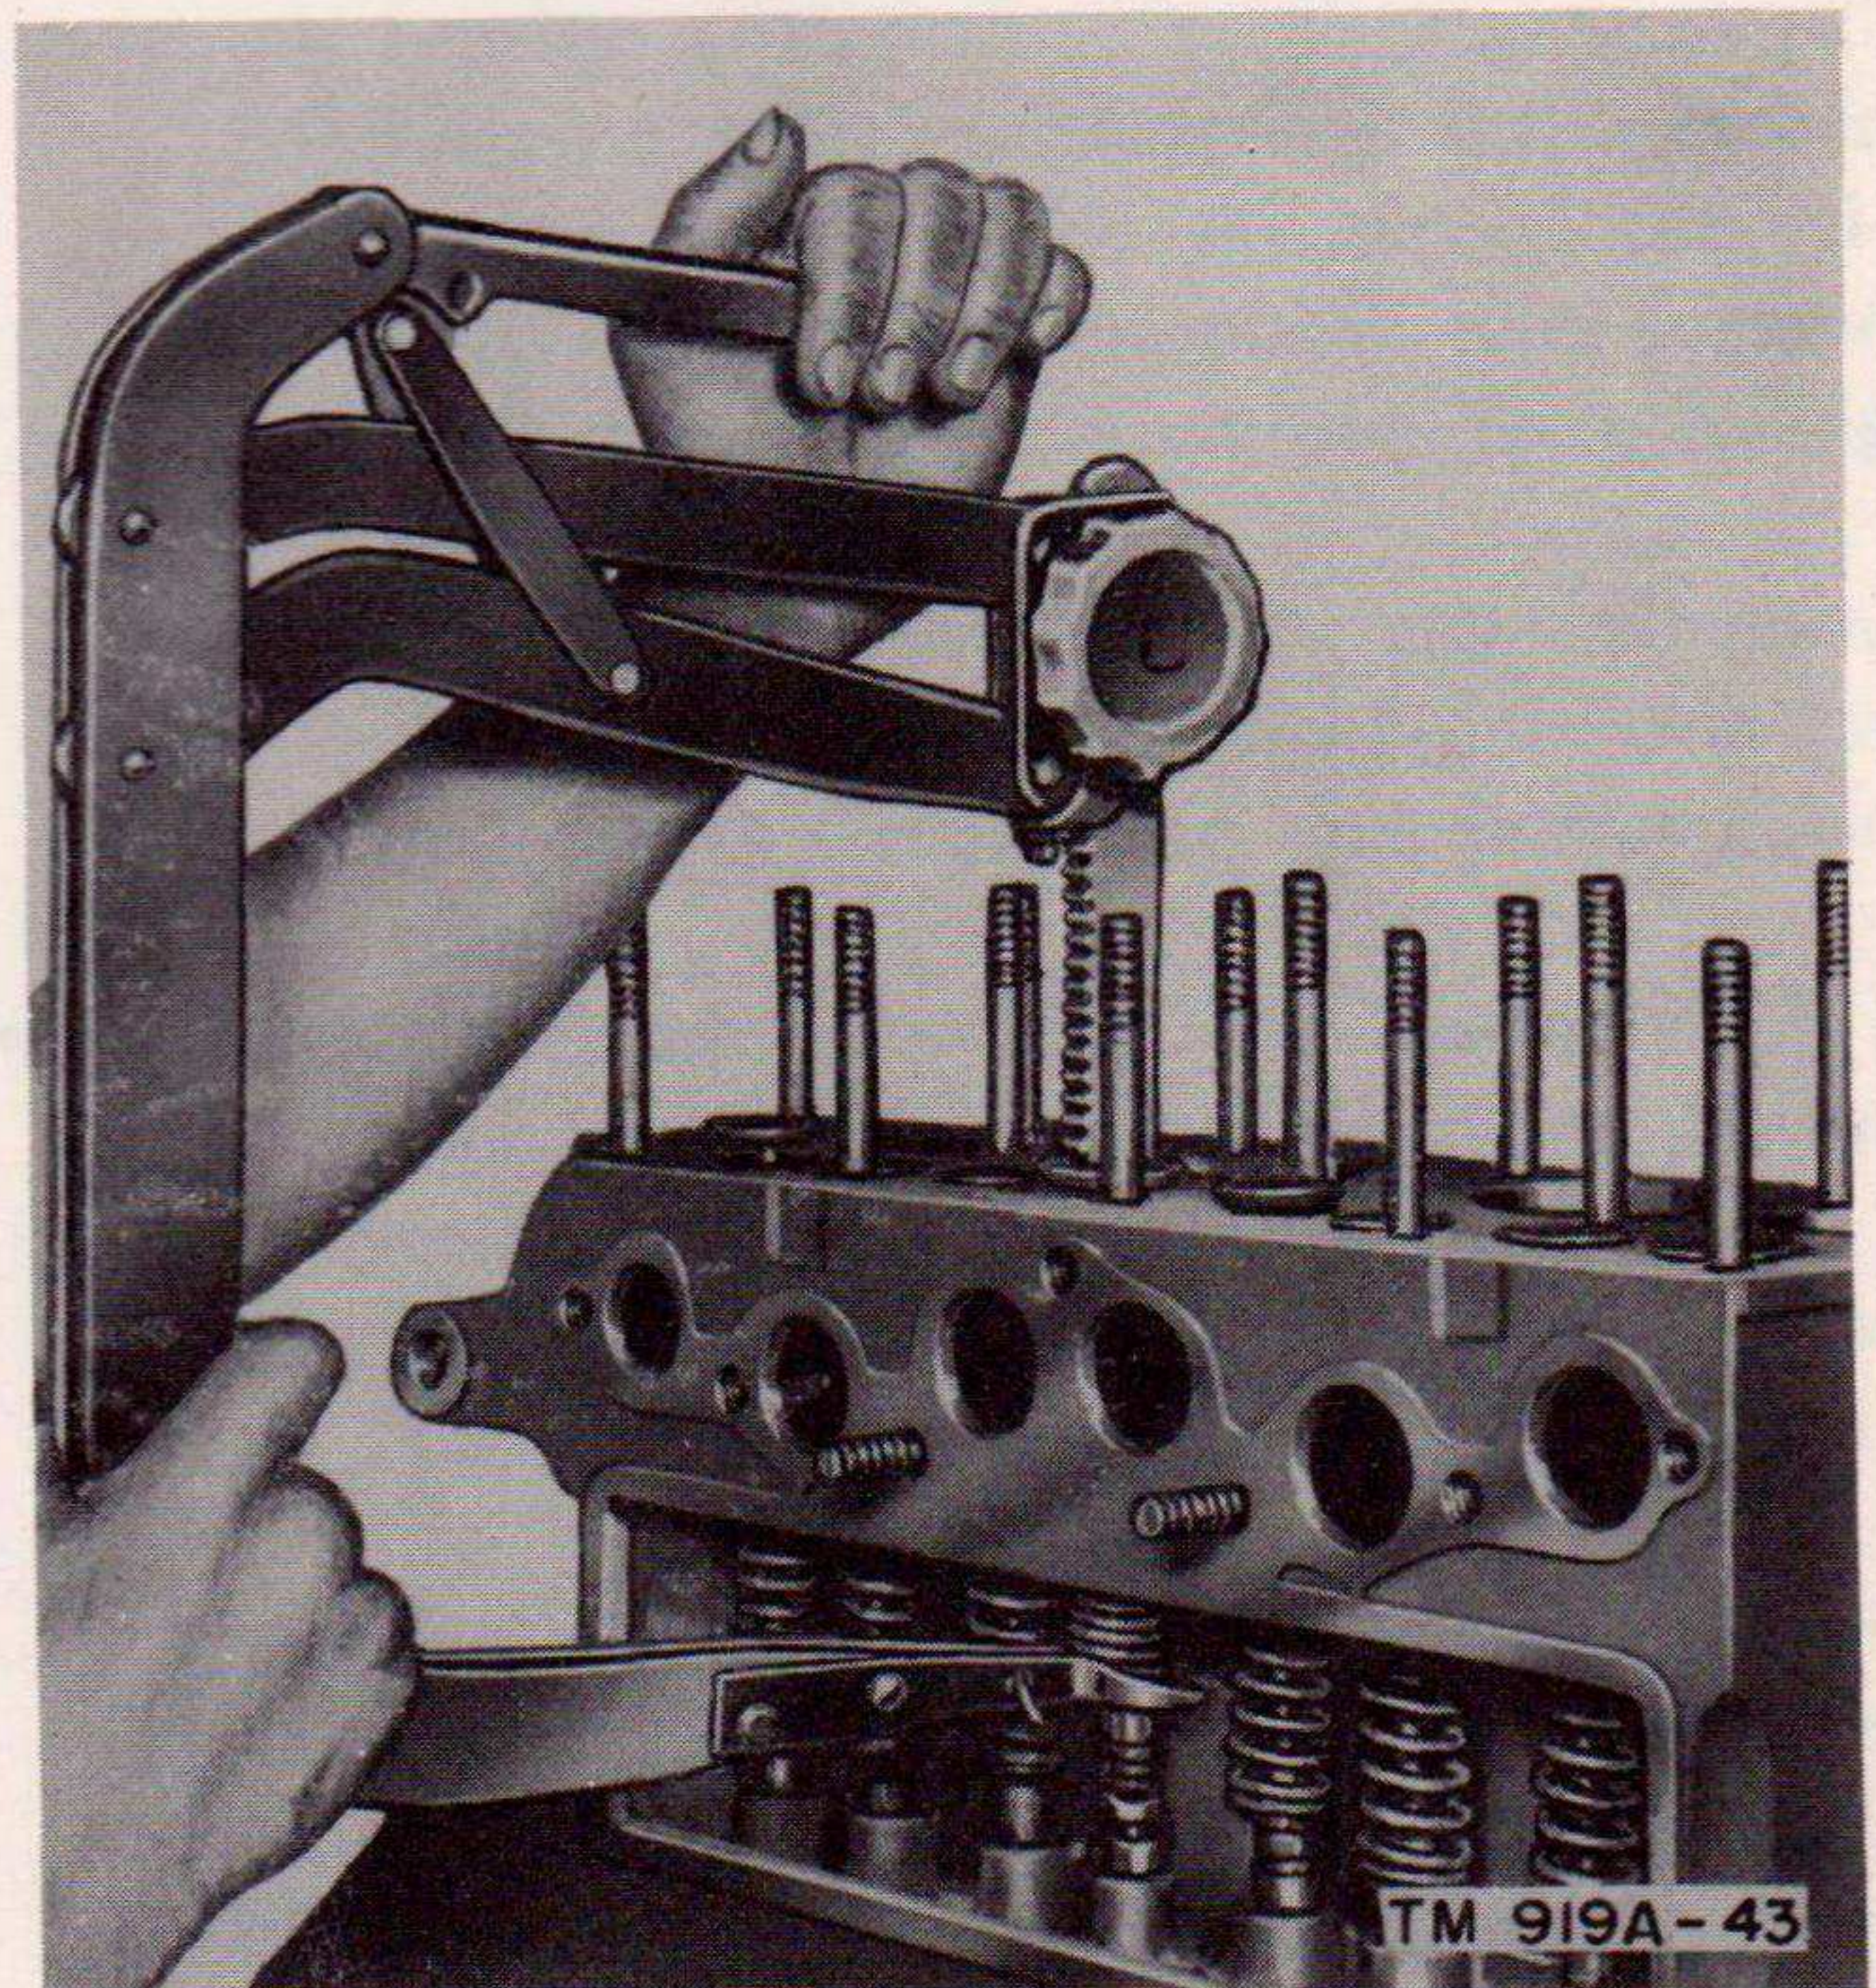

Figure 43. Removing valves.
- (4) With a spring compressor raise the springs on the valves which are in a closed position, as shown in figure 43, and remove the valve locks (15). Then turn the crankshaft until any open valves become closed and remove the remaining valve locks. Remove the valve spring retainers (16) and keep them with their respective valves.
- (5) Remove the valves (17) and place them in a wooden block drilled and numbered for identification. Remove the valve springs
(18) and valve stem caps (19). Clean the valves on a wire wheel brush. Remove the carbon from the top and bottom of the valve heads and the gum from the stems. Reface the valve heads at an angle of 45°. Reface the intake valve seats in the cylinder block and check with a dial gage. Valve seats should not be out-of-round more than .002 inch. Check the condition of the exhaust valve seat inserts (23) and replace if necessary. Touch up the valves to the valve seats with a fine grinding compound.